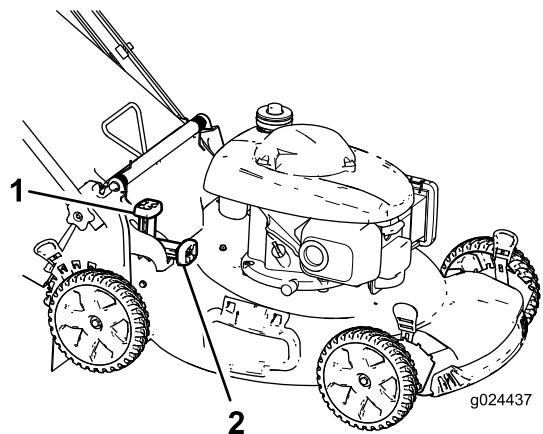

Figure 17
- To bag the grass and leaf clippings, press the button on the bag-on-demand lever and move the lever forward until the button on the lever pops up (Figure 17).